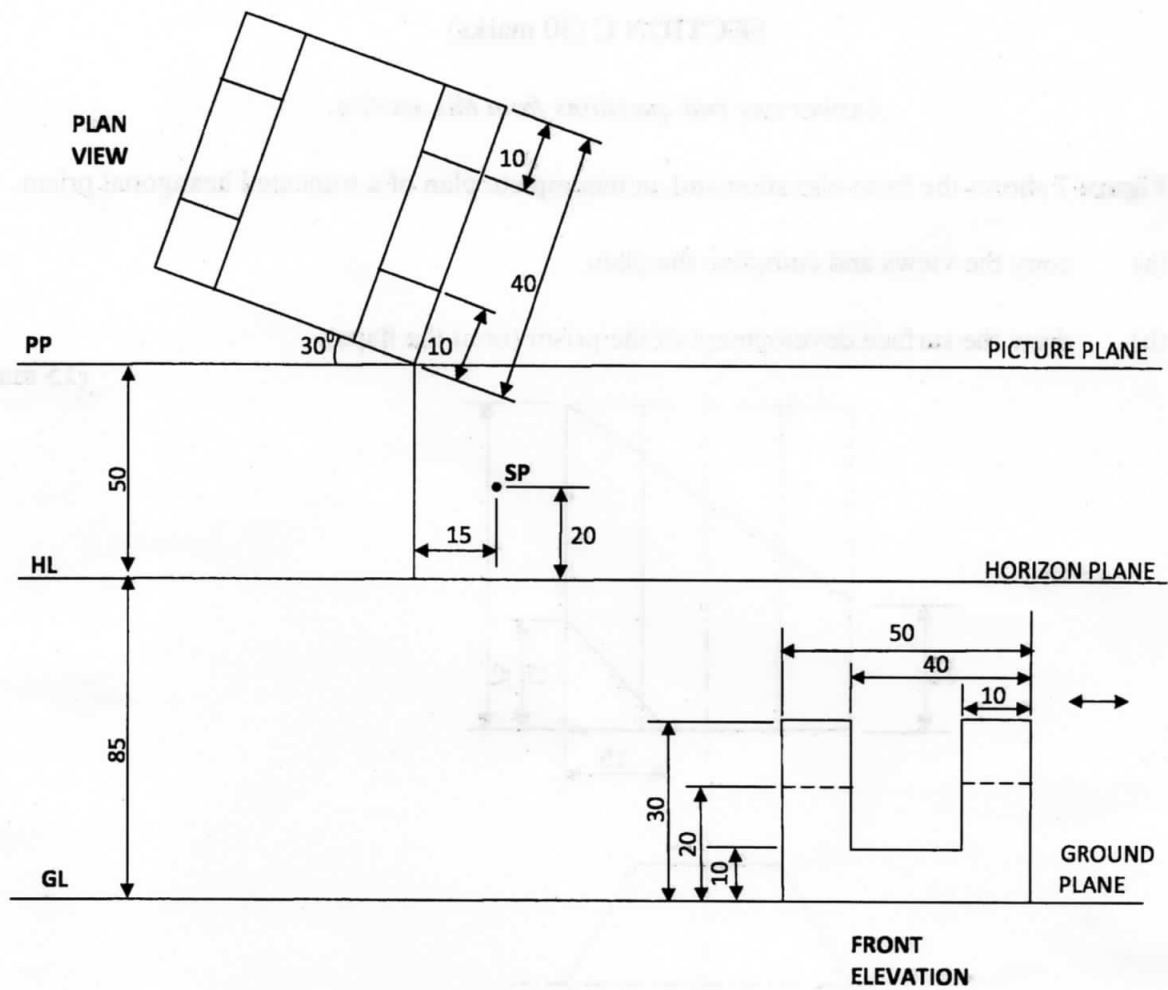

Figure 8
- 13 **Figure 8** shows an inclined plan of a block and its front elevation.